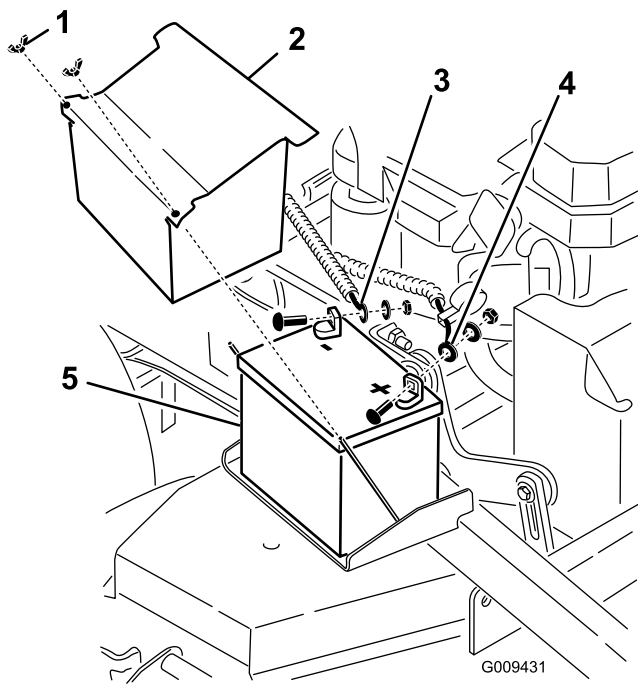

Figure 52
3. Lift the black rubber cover on the negative cable. Disconnect the negative battery cable from the negative (-) battery terminal (Figure 52).
4. Slide the red terminal boot off the positive (red) battery terminal. Then remove the positive (red) battery cable (Figure 52).
5. Remove the battery hold down plate (Figure 52) and remove the battery.
1. Place the battery onto the machine (Figure 52).
3. First, install the positive (red) battery cable to positive (+) battery terminal with a nut, washer and bolt (Figure 52). Slide the rubber cover over the post.
4. Then install the negative battery cable and ground wire to the negative (-) battery terminal with a nut, washer and bolt (Figure 52). Slide the rubber cover over the post.